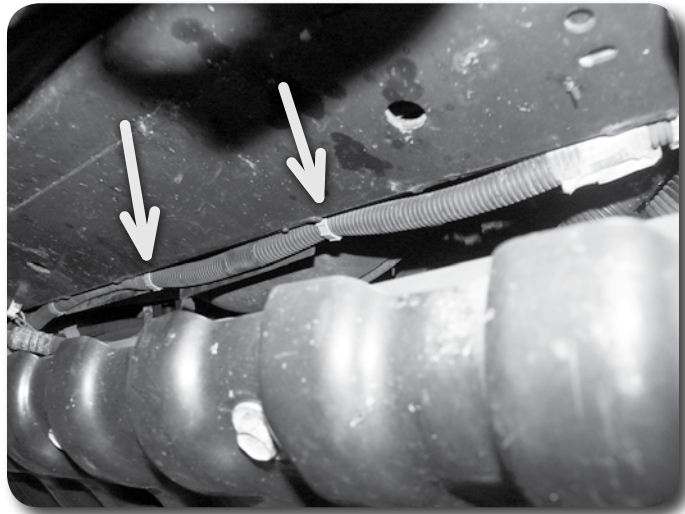

Figure 10
14. Locate the wire loom running along the bottom of the core support **Figure 10**. Remove the wire loom from the retain clips (approximately 4 total) and remove the clips from the core support. The clips will not be reused. Be sure that the lower portion of the fan shroud lip is clear from the bottom edge of the core support so it is able to drop while the body is lifted. If the vehicle is equipped with a front skid plate, removing the skid plate will aid in accessing the clips.